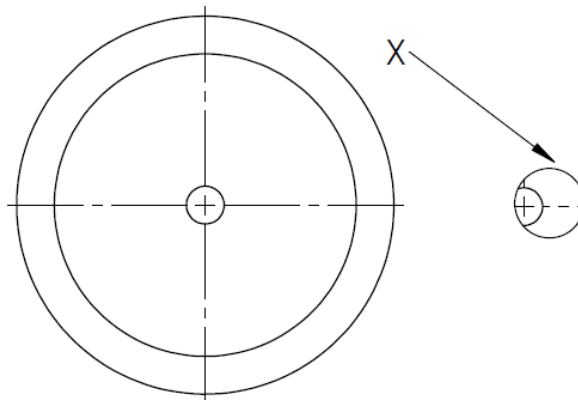

Figure 4.2
c) What is the name of the view indicated by X in the above Figure 4.2?